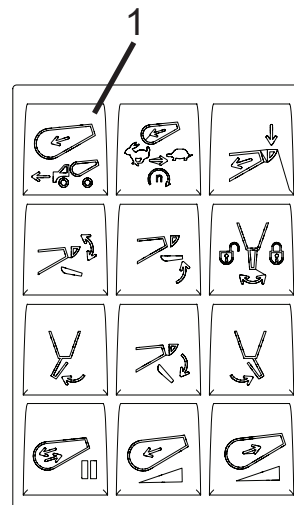

Figure 44
1. To manually engage CONSTANT SPEED mode, press the CONSTANT SPEED button on the optional in-cab keypad (Figure 44, Item 1). The button indicator will illuminate when mode is selected. All other mixer drum inputs are disabled while this mode is activated.